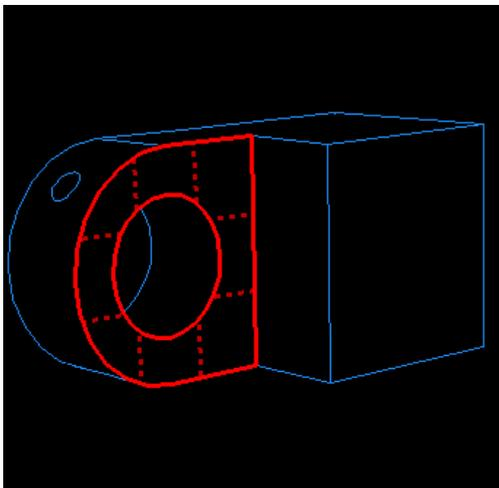

Figure C-38 Select the region to be defined as the surface `Flange-h`.
4. On the instance with the lubrication hole, select the face of the flange that contacts the other flange, as shown by the gridded face in Figure C-38. (You may need to rotate the view to see this face clearly.)